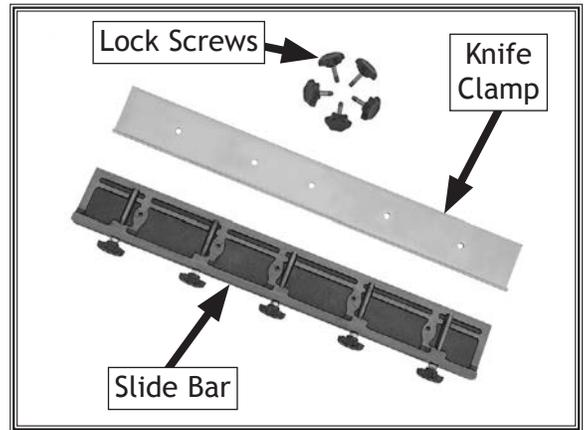

Figure 13. Slide bar dismantled.
- Lay slide bar on flat, stable surface, remove five lock screws, then remove knife clamp, as shown in Figure 13.